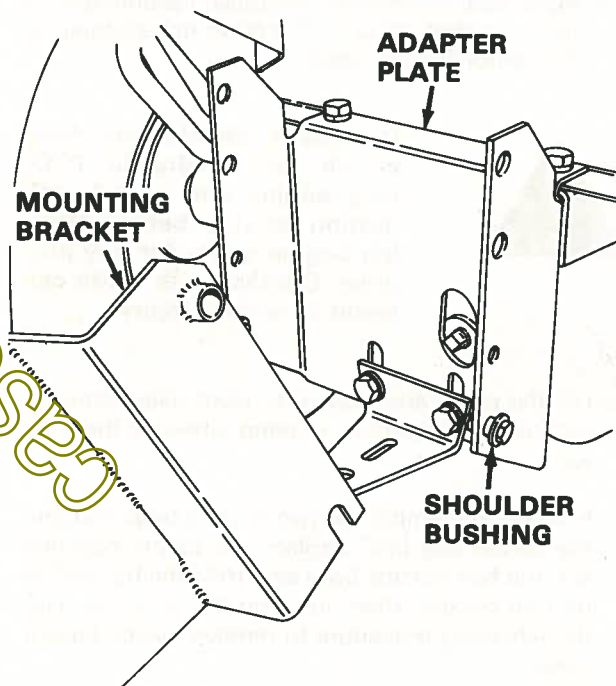

FIGURE 8
1. Attach adapter plate to rear of tractor as shown in Figure 8. Use the longer bolts provided to secure the draw bar. Reinstall the drawbar.